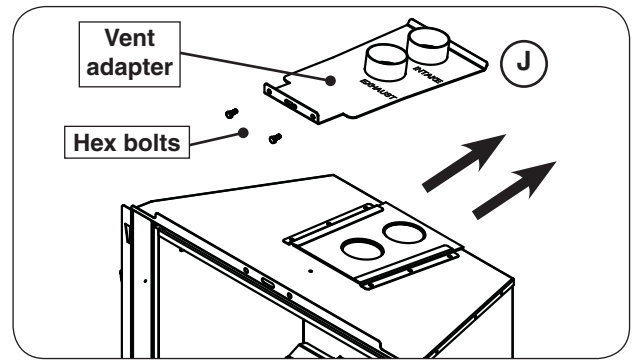

Fig. 25-1 Remove vent adapter
10. Remove the vent adapter from the top of the insert. Unfasten the two hex bolts using a  $\frac{7}{16}$ " nut driver and slide the adapter out (see Fig. 25-1, J). Retain the bolts for future install.